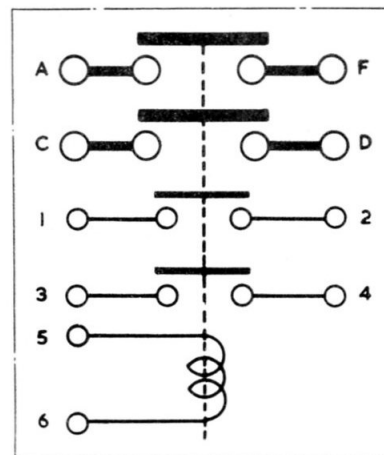

Fig. 3. Circuit diagram
9. A circuit diagram of the connections is given in fig. 3, and the terminal arrangement